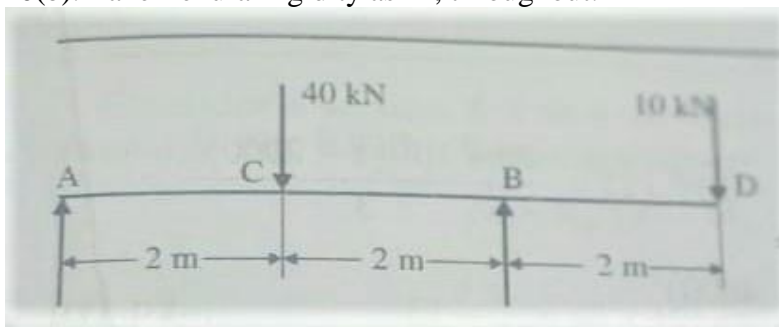

Fig Q 10(b)
- b. Determine the deflection under the loads in the beam shown in Fig Q 10(b). Take flexural rigidity as EI , throughout. **10** (3 : 5 : 2.2.4)